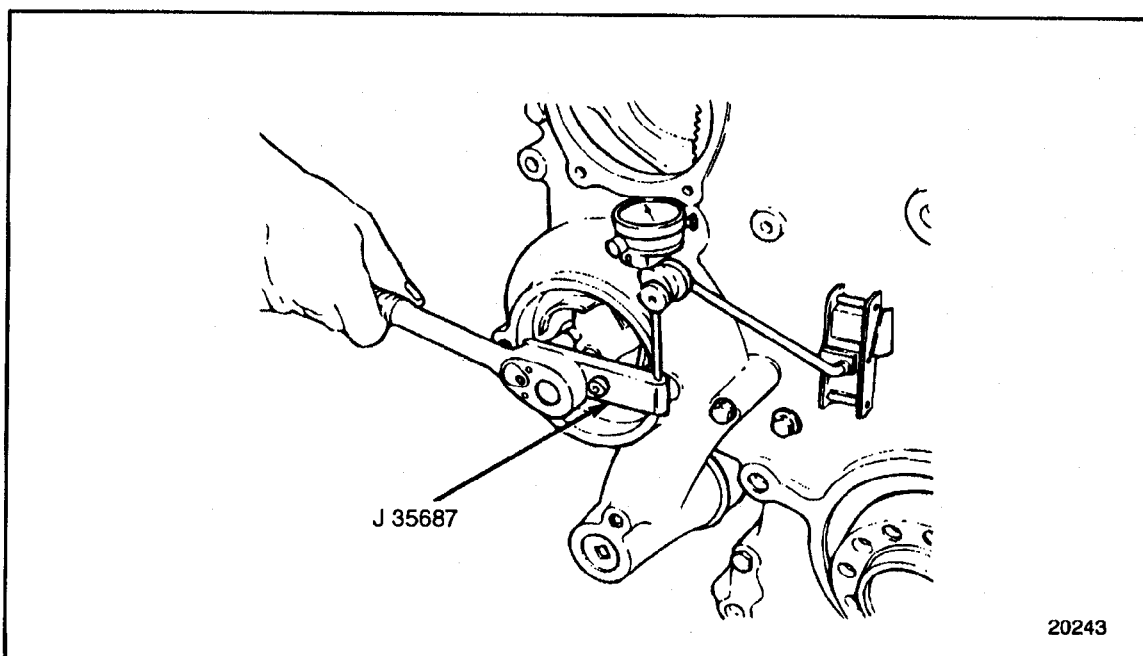

Figure 1-317 Water Pump Drive Gear Lash Measurement
- [a] Install the water pump impeller slip tester, J 35687-1, to the water pump impeller with two 5/16-18 bolts, using the instructions supplied with the tool. See Figure 1-317.